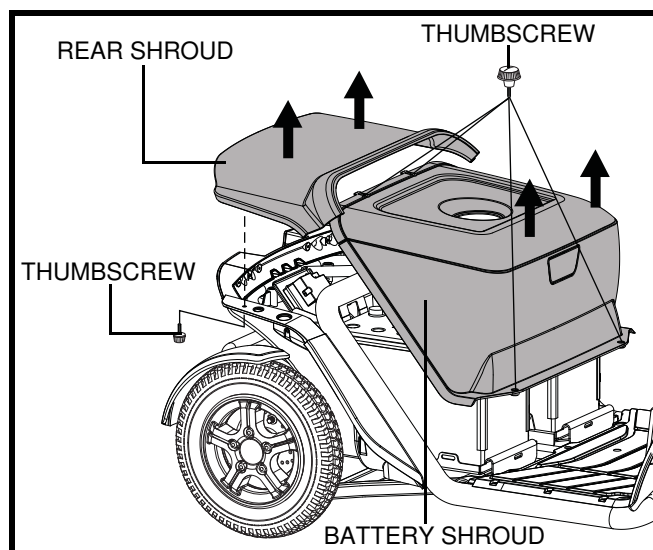

Figure 13. Shroud Removal/Installation
2. Remove the rear shroud by lifting it straight up and off the scooter. The shroud is secured to the scooter with reusable fasteners and two thumbscrews. See figure 13.
3. Remove the battery shroud by removing the four (4) thumbscrews that secure it to the scooter frame, and then lifting the shroud straight up and off of the scooter. **See figure 13.**